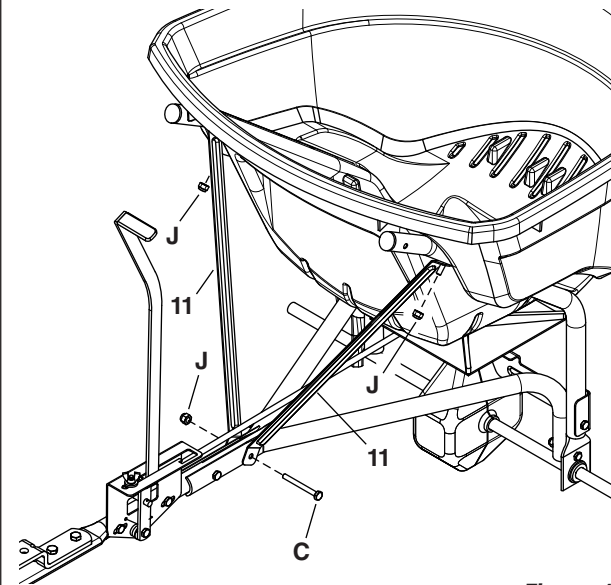

Figure 13
STEP 13: (SEE FIGURE 13)
- Fasten the hopper braces (11) to the hopper support tubes using the nylock nuts (J) that were assembled earlier. **Do not tighten completely.**
- Fasten the loose ends of the hopper braces to the hitch tube using a 1/4" x 2" hex bolt (C) and a 1/4" nylock nut (J). **Do not tighten completely.**